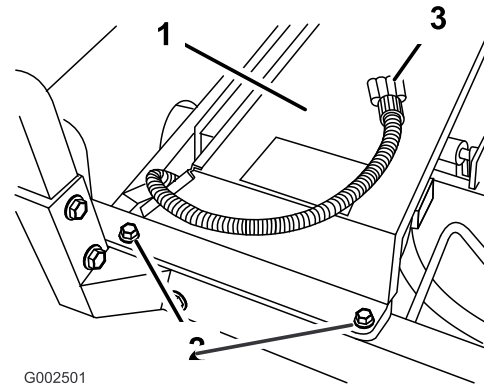

Figure 19
- Install the radiator cover assembly over the vehicle's radiator (Figure 19).